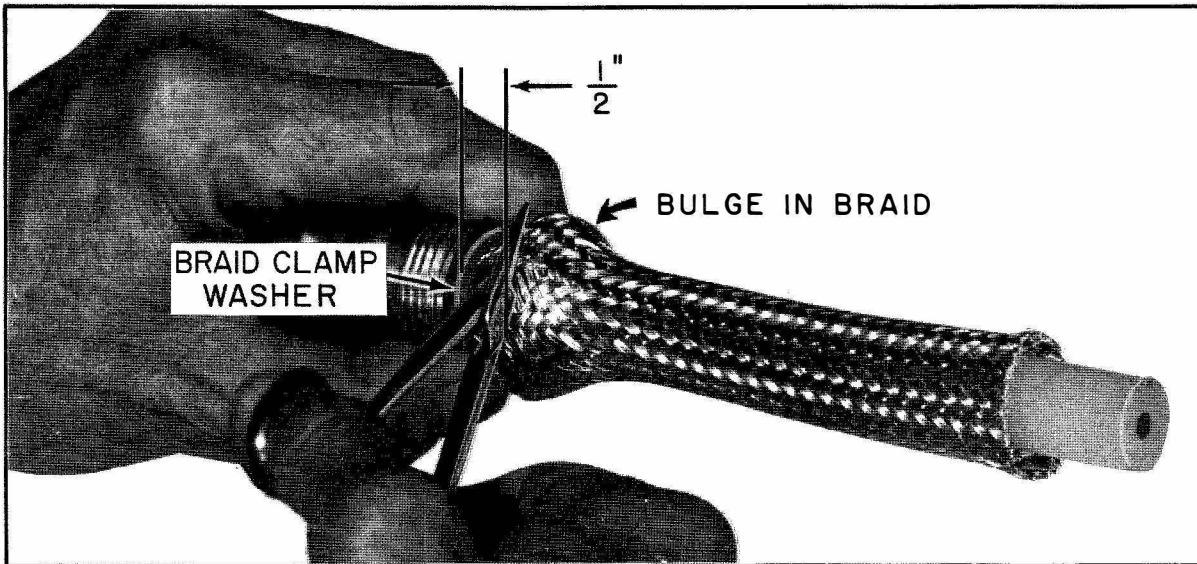

Figure 5-9d. Cutting Braid
Step 4. - Slide the braid clamp washer, piece 6, over the outer conductor braid, against the cable jacket and the cable seal nut. Bulge the braid and, using scissors, cut the braid approximately 0.5 inch from the braid clamp washer as illustrated in figure 5-9d.